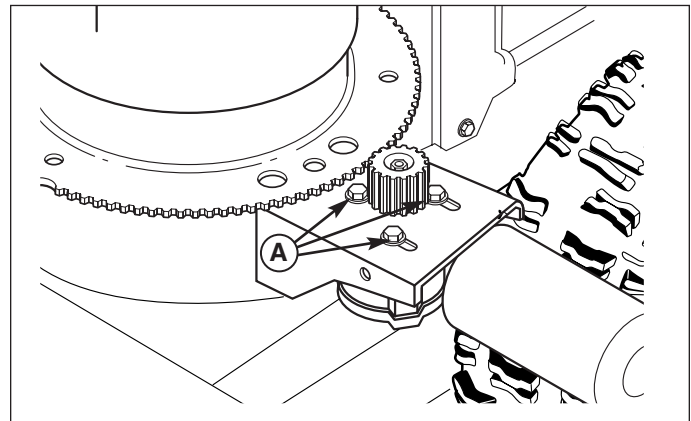

Figure 25. Chute Rotator Motor Adjustment
3. Loosen the capscrews (A, Figure 25) securing the rotator motor and adjust so that the motor gear and chute ring gear mesh. Tighten the capscrews.